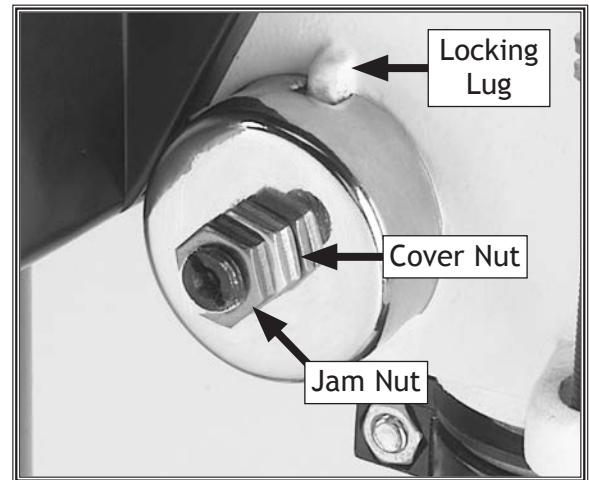

Figure 45. Return spring adjustment components.
- Put on thick leather gloves and hold spring cover against side of headstock so cover stays splined with locking lug, remove jam nut, then loosen cover nut approximately $\frac{1}{4}$ " (6.4mm) (see **Figure 45**).